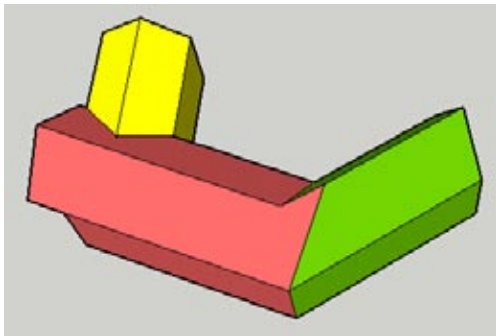

Figure 5-71
9. Now you can trim the rest of the red faces. While you're here, also trim the portions of the yellow faces that stick out from the back red face (Figure 5-71).